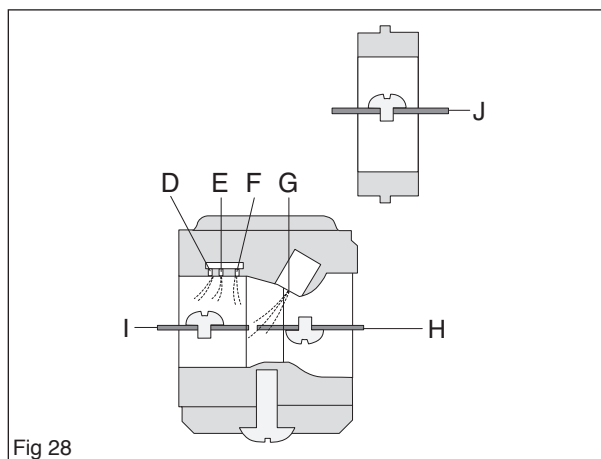

Fig 28
In full throttle mode (see figure below) all valves are open and fuel is supplied through all diffuser jets (D, E, F and G). Extra air inlet (J) is also fully opened. (see figure 28)